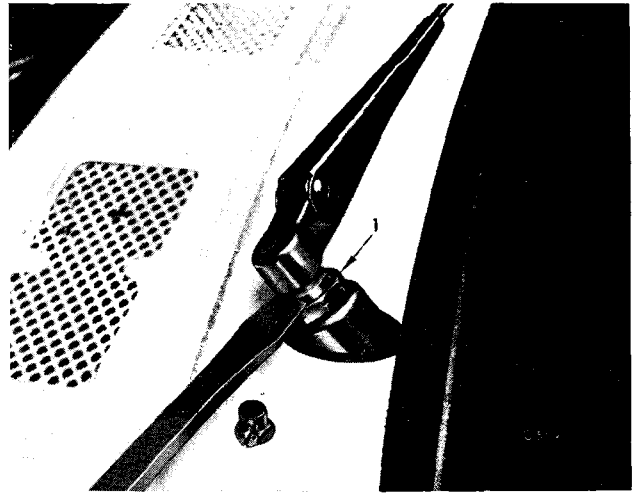

Fig. 40. Removing wiper arms
Prise off the windscreen wiper arms (Fig. 40).
Remove the wiper arms and locknuts (1) (Fig. 40).